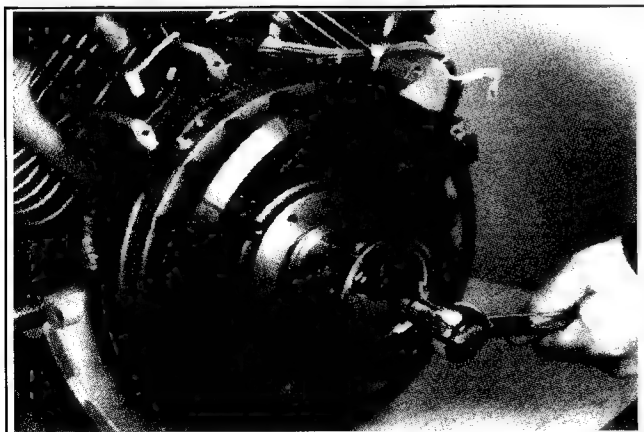

Figure 9-16. Remove Cup From Retractable Starter Equipped Models.
1. Hold flywheel with a strap wrench or holding tool (refer to Section 2). Turn flywheel retaining screw (13 mm socket) counterclockwise to remove screw and washer. Engines with retractable starters will also have the drive cup retained with the flywheel screw. See Figure 9-16